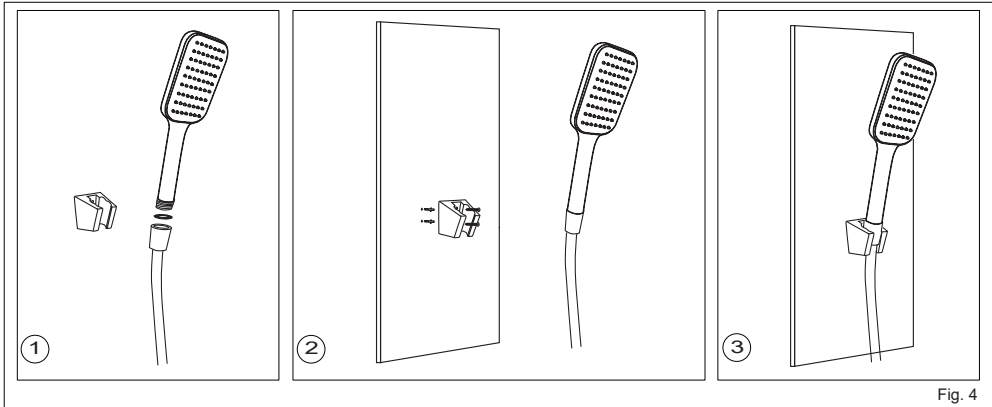

Fig. 4
5. Lead the power cable from the MCB to a "ON/OFF" double pole linked switch having a contact separation of at least 3mm in all poles outside the bathroom, then lead a cable connected to terminal block inside the unit. (Fig.4)